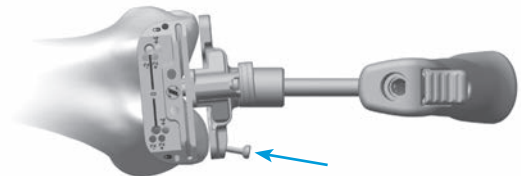

Fig. 112
- To secure orientation, impact the captured pin on the medial side of the Fixed Valgus Guide until the head of the captured pin is flush with the plate (Fig. 112).